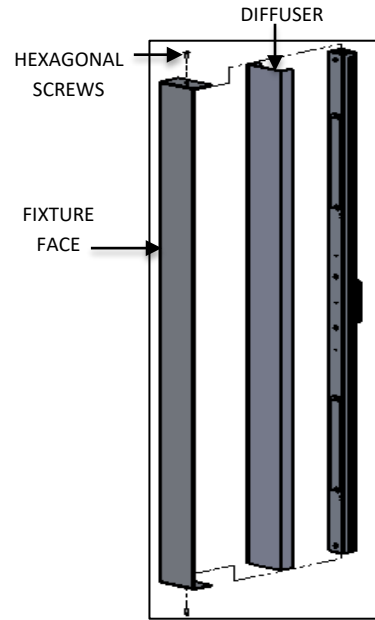

FIG. 16- FIXTURE FACE ASSEMBLY
10. Attach FIXTURE FACE to the fixture with the HEX SCREWS provided as shown in FIG.16.